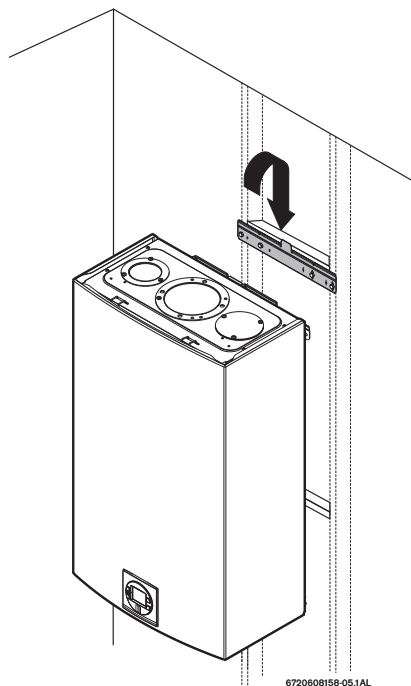

Fig. 28 Mounting the heater
- ▶ Hang the appliance on the bracket, see Fig. 28, page 27.